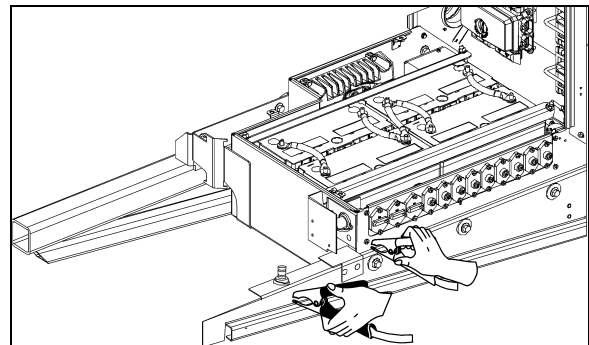

FIGURE 32: BOOSTER BLOCK
On X3-45 coaches, booster block is located near the batteries in the engine compartment on the R.H. side and is accessible through engine R.H. side door (Figure 32).
1. Connect one end of one red jumper cable to the positive (+) terminal of the booster power source and the other end to the positive (+) post of the booster power block, located on the R.H. side of the engine compartment (refer to Figure 32).